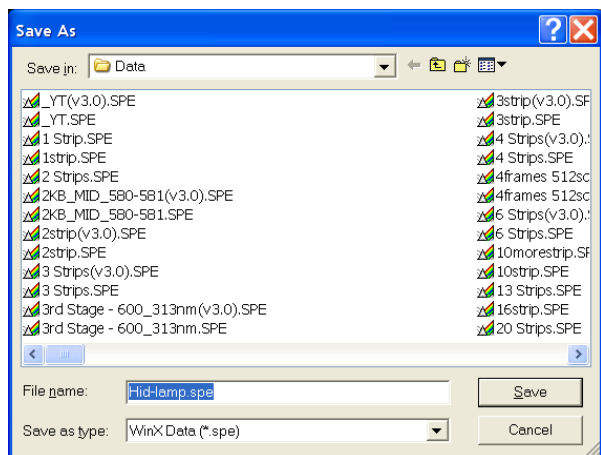

Figure 51. Data File Save As dialog
1. Select **Save As** from the **File** menu. The **Data File Save As** dialog (Figure 51) appears.